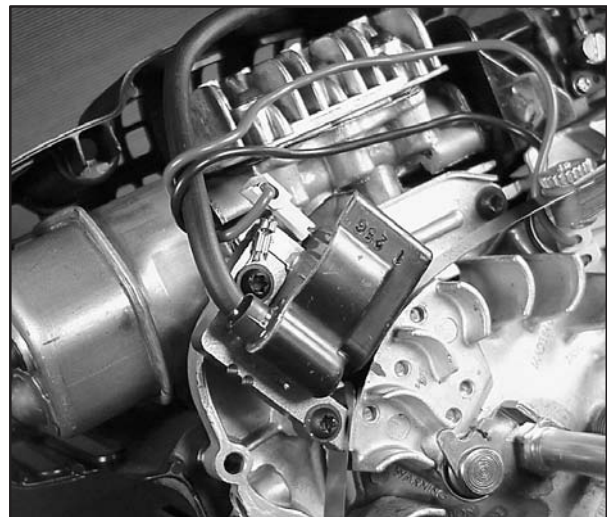

Fig. 19
- Insert feeler gage .010" – .014" (.25 – .35 mm) between flywheel magnets and armature, Fig. 19.